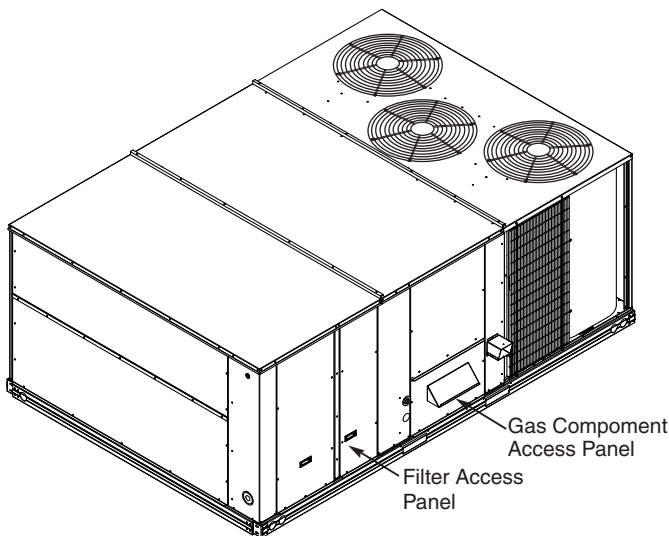

Fig. 23 — Air Filter Access Panel — 15 to 27-1/2 Ton Units
1. Lift up and remove air filter access panel (3 to 15 ton units, see Fig. 21 or 22) or remove the screws securing the filter access panel (15 to 27-1/2 ton units, see Fig. 23).